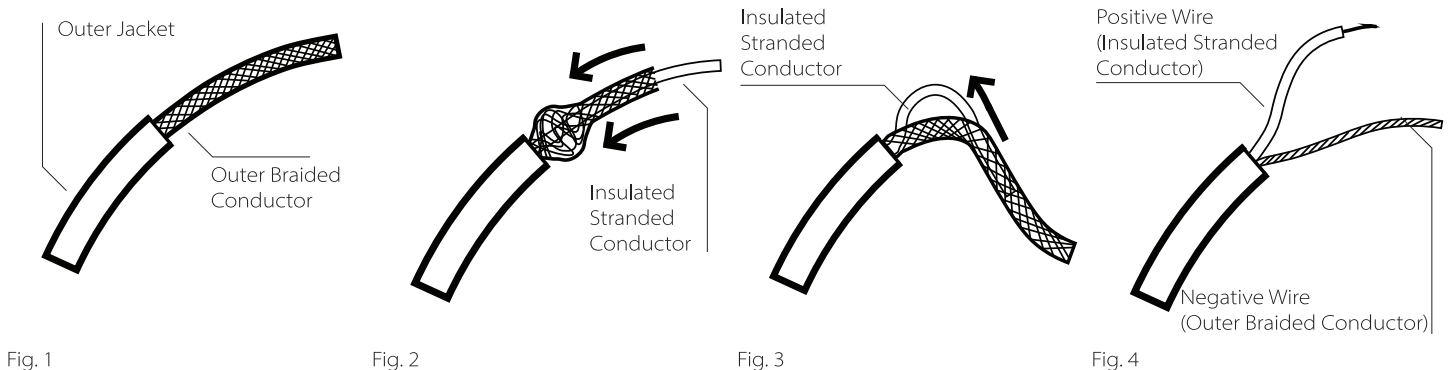

Fig. 1                                      Fig. 2                                      Fig. 3                                      Fig. 4
1. Make a 1" slice along the length of the cord's outer jacket (Fig. 1).
2. Carefully strip the outer jacket of the cord and keep the outer braided conductors intact (Fig. 1).